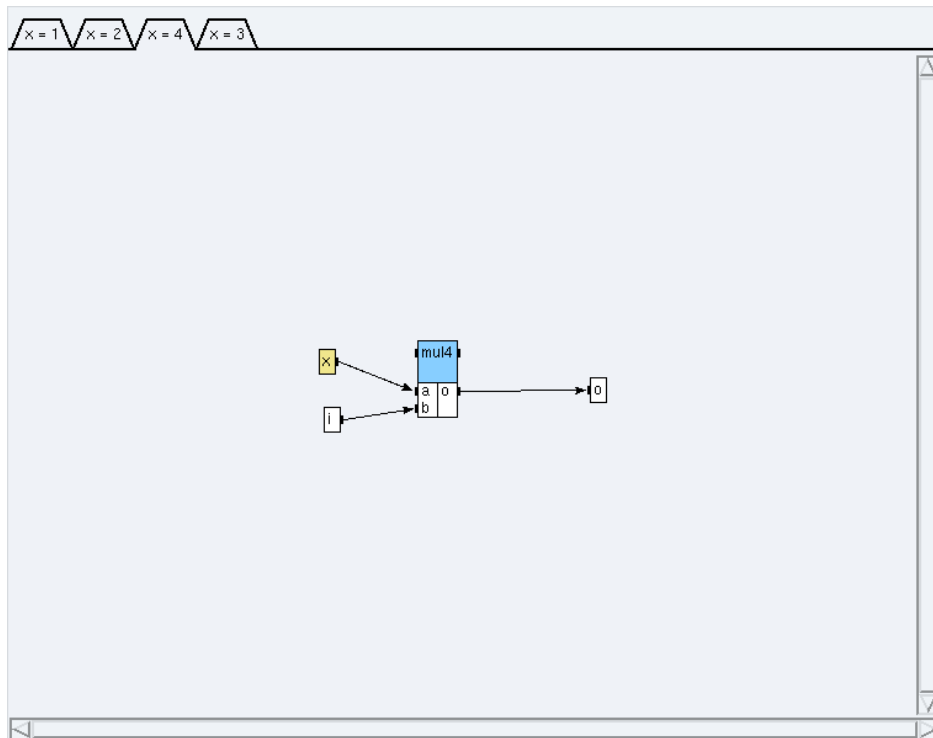

Figure 5.5: Condition $x=4$
- * click on the condition **x=4** (*cf.* figure 5.5) and create a reference `mul4<1>` to the definition `int/Arit_mul`;